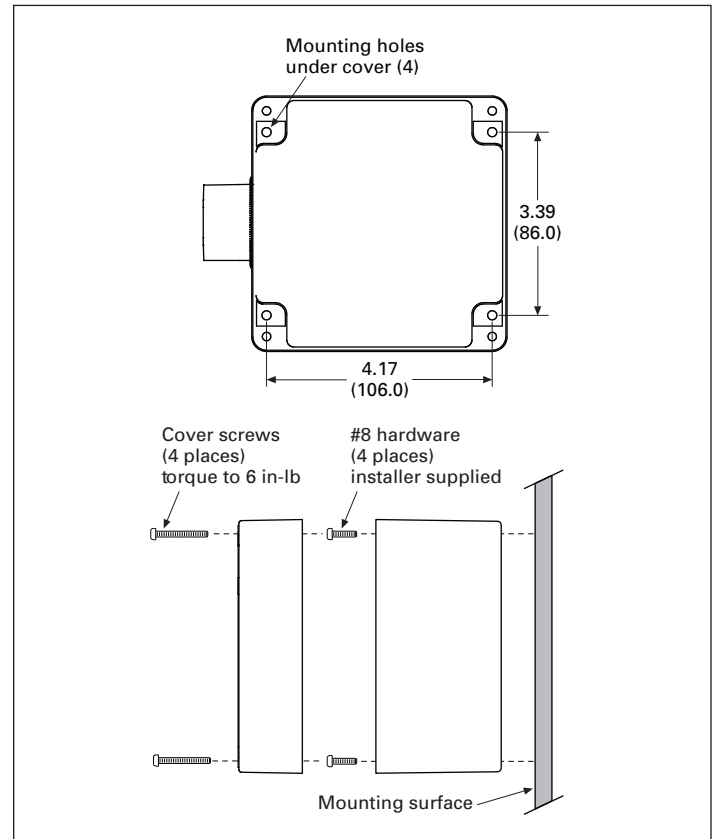

Figure 3. Wall mounting using internal mounting holes
1. Gain access to the internal mounting holes by first removing the SPD's four front cover screws, and then removing the front cover. See **Figure 3**.